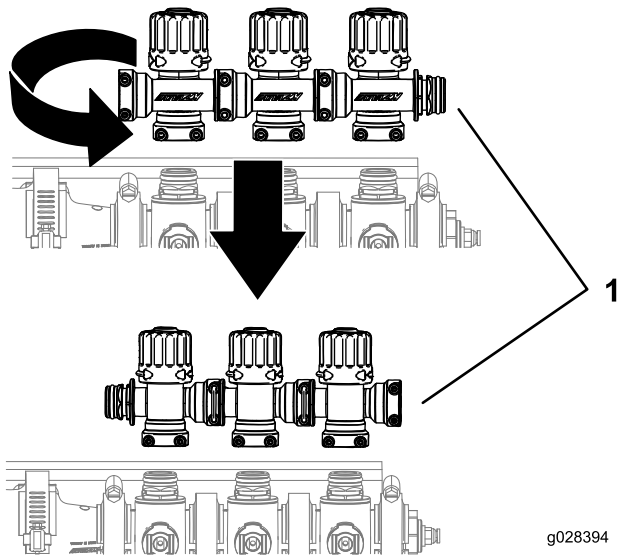

Figure 11
- Rotate the boom bypass valve cluster 180° as shown in Figure 11.